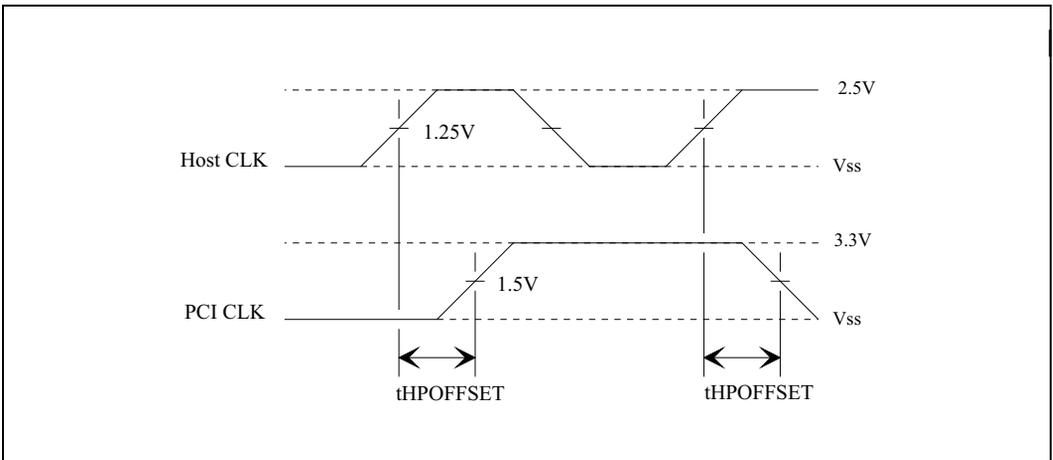

Figure 12. Host CLK to PCI CLK Offset
- The Host CLK must always lead the PCI CLK as shown in Figure 12. This must be guaranteed by design under loaded conditions. This is a function of drive strength as well as routing topologies. This is a combined CLK driver requirement and a layout requirement.